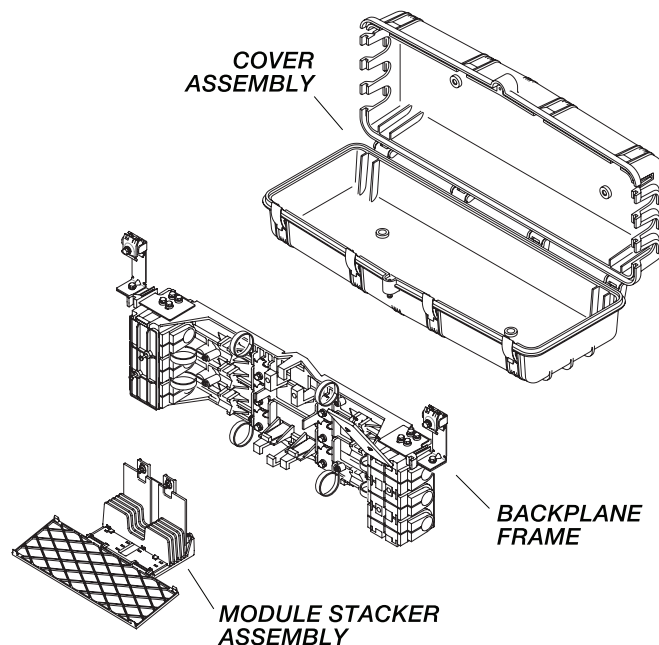

FIGURE 1—Components of the LG-600 Closure.
1.01 The AFL LG-600 Aerial Fiber Closure provides a unique and flexible fiber splicing system for fiber trunk, feeder, or distribution cable. Usable in either a butt or in-line configuration, the LG-600 consists of three (3) main components (Refer to Figure 1):